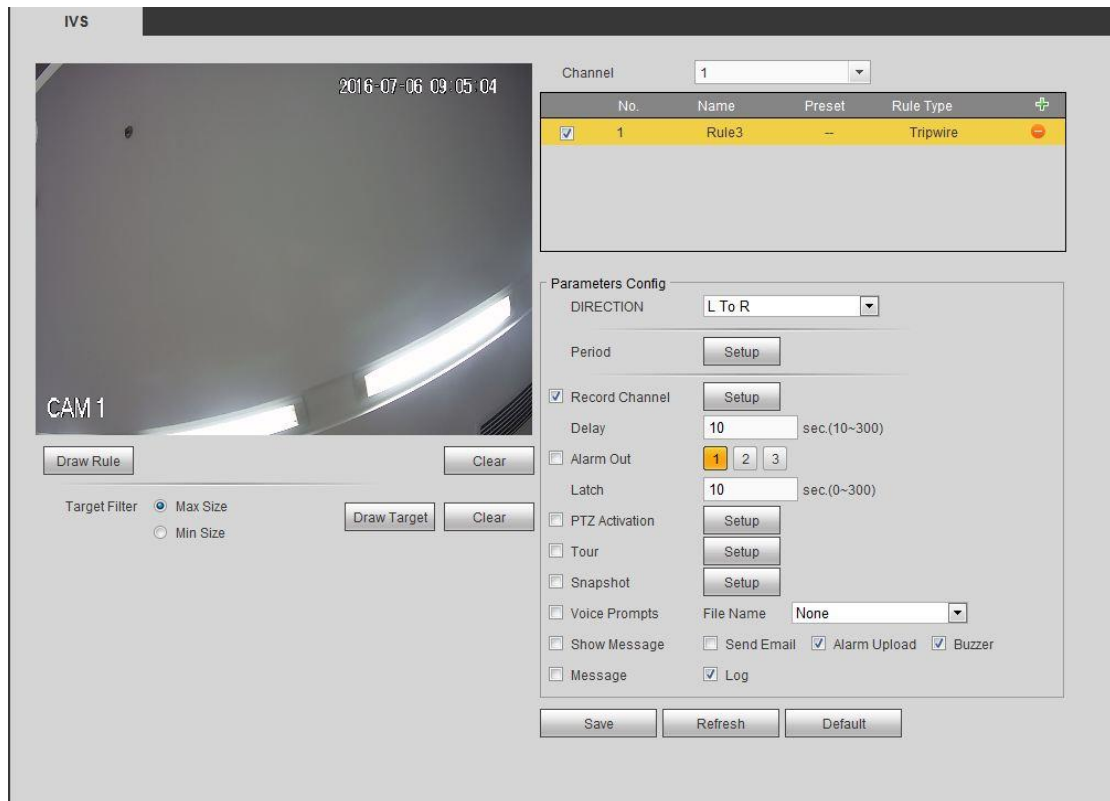

Figure 5-84
Step 2 Check the Tripwire box to enable tripwire function. See Figure 5-84.